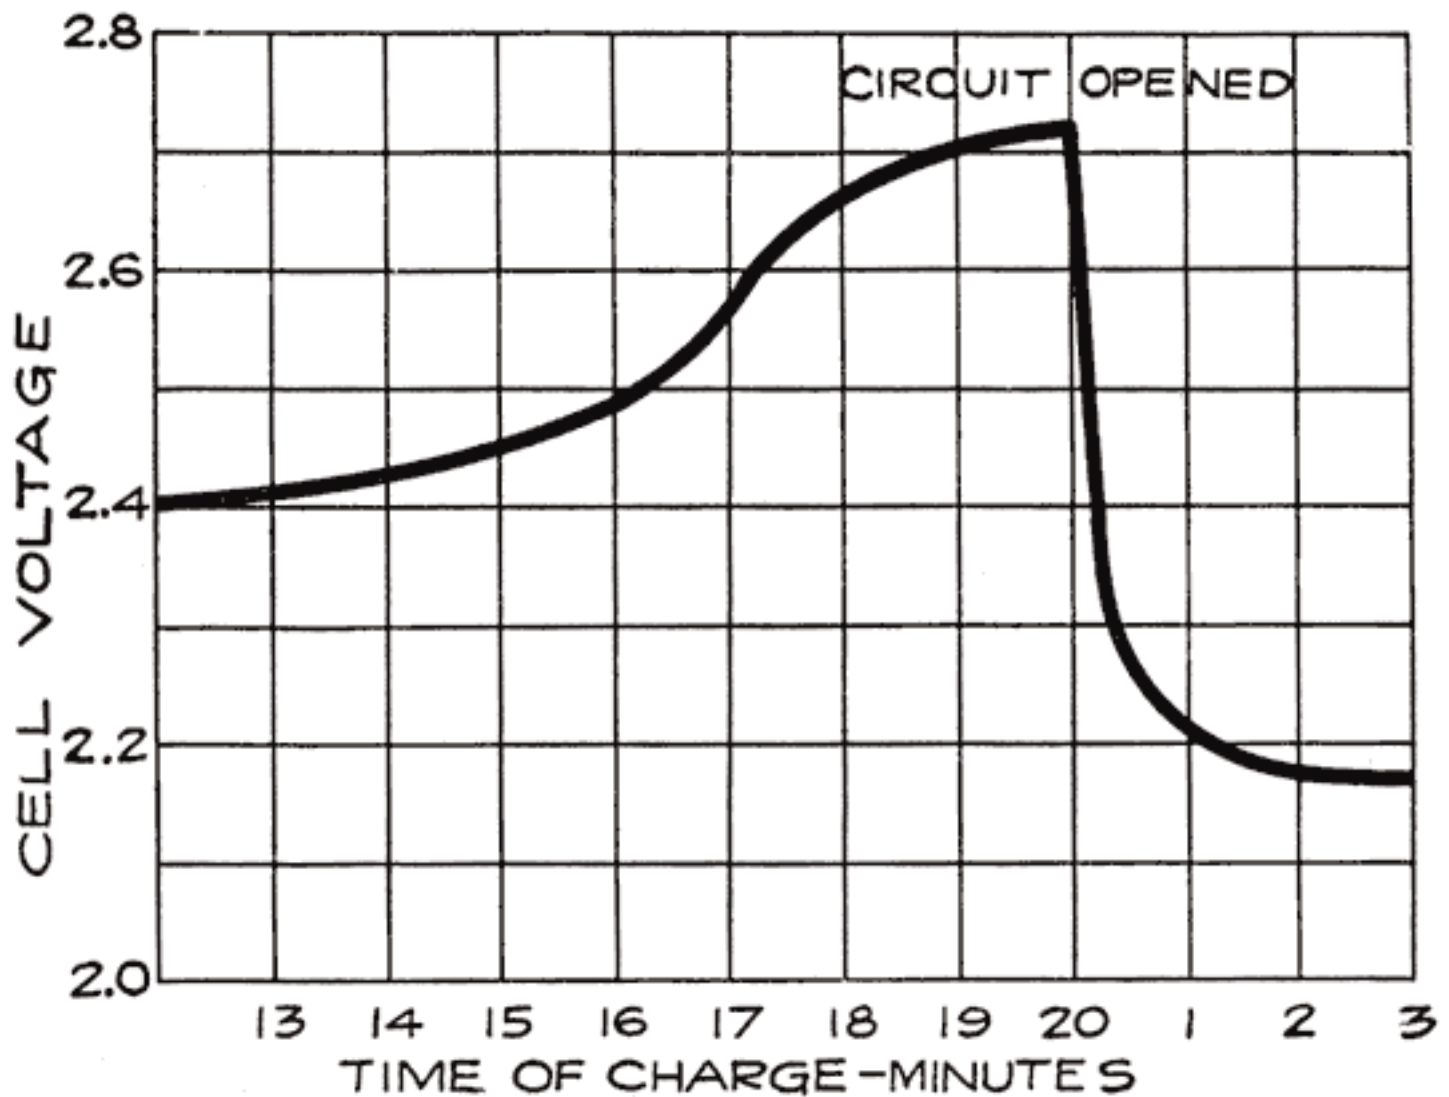

Fig. 21. Voltage Changes During Last Eight Minutes of Charge and First Three Minutes After End of Charge
**Voltage Changes During Discharge.** At the end of a charge, and before opening the charging circuit, the voltage of each cell is about 2.5 to 2.7 volts. As soon as the charging circuit is opened, the cell voltage drops rapidly to about 2.1 volts, within three or four minutes. This is due to the formation of a thin layer of lead sulphate on the surface of the negative plate and between the lead peroxide and the metal of the positive plate. Fig. 21 shows how the voltage changes during the last eight minutes of charge, and how it drops rapidly as soon as the charging circuit is opened. The final value of the voltage after the charging circuit is opened is about 2.15-2.18 volts. This is more fully explained in Chapter 6. If a current is drawn from the battery at the instant the charge is stopped, this drop is more rapid. At the beginning of the discharge the voltage has already had a rapid drop from the final voltage on charge, due to the formation of sulphate as explained above. When a current is being drawn from the battery, the sudden drop is due to the internal resistance of the cell, the formation of more sulphate, and the abstracting of the acid from the electrolyte which fills the pores of the plate. The density of this acid is high just before the discharge is begun. It is diluted rapidly at first, but a balanced condition is reached between the density of the acid in the plates and in the main body of the electrolyte, the acid supply in the plates being